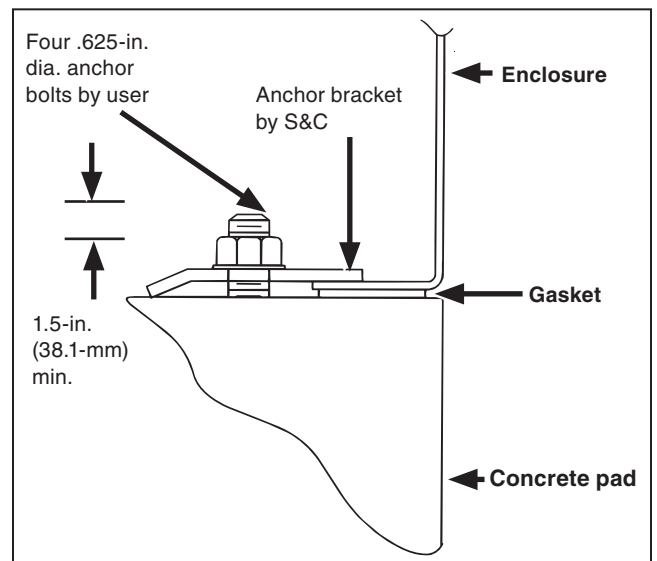

Figure 18. Anchor bracket detail.
STEP 7. Secure the tank to the pad using the anchor brackets provided. See Figure 18 on page 15.
STEP 12. Secure the enclosure to the pad using the anchor brackets provided. See Figure 18.